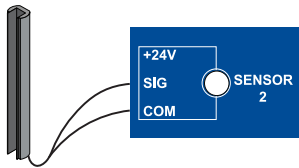

Figure 51. Sensor Connection
4. Install the wires into input Sensor #1, #2, or Input #1, #2, (not #3) on the SmartCNX controller (Figure 51). Make all COM connections ONLY to Sensor #1, #2. Make sure to connect to a Sensor COM port for switched common for monitoring purposes.